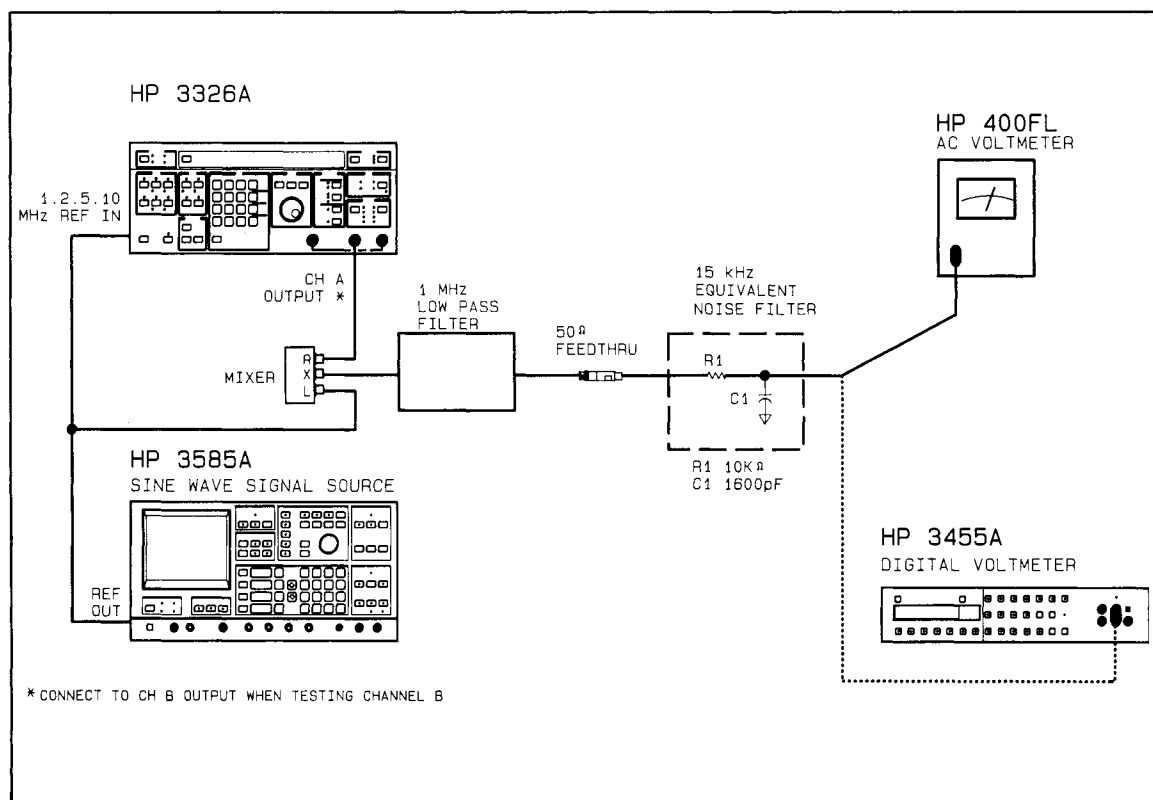

Figure 2-11. Integrated Phase Noise Test
2. Connect the test equipment as follows (illustrated in Figure 2-11):